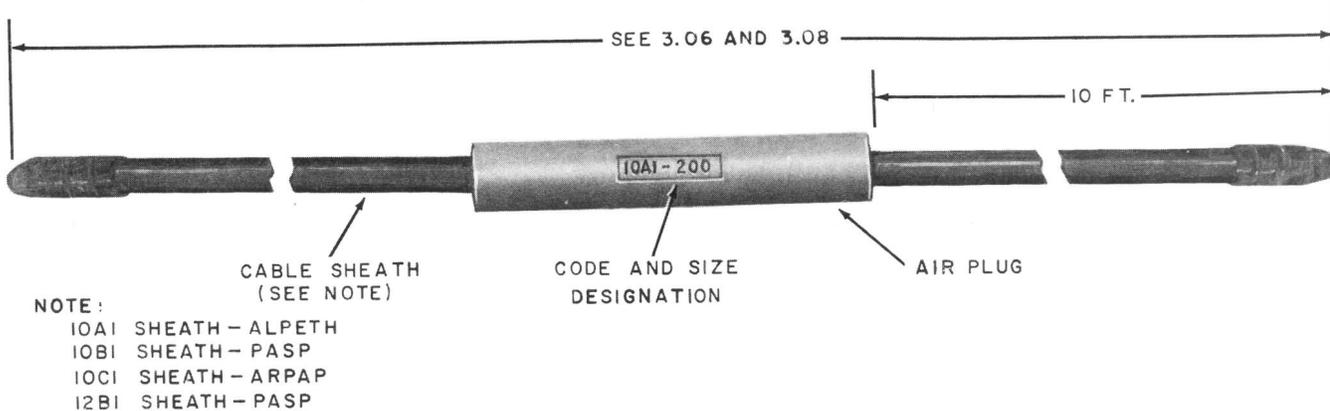

Fig. 1—10A1 Cable Stub
3.05 A 10A1 cable stub is illustrated in Fig. 1. The 10B1, 10C1, and 12B1 cable stubs are similar in outward appearance to the 10A1 cable stub. Stub cable combinations are shown in Table A.